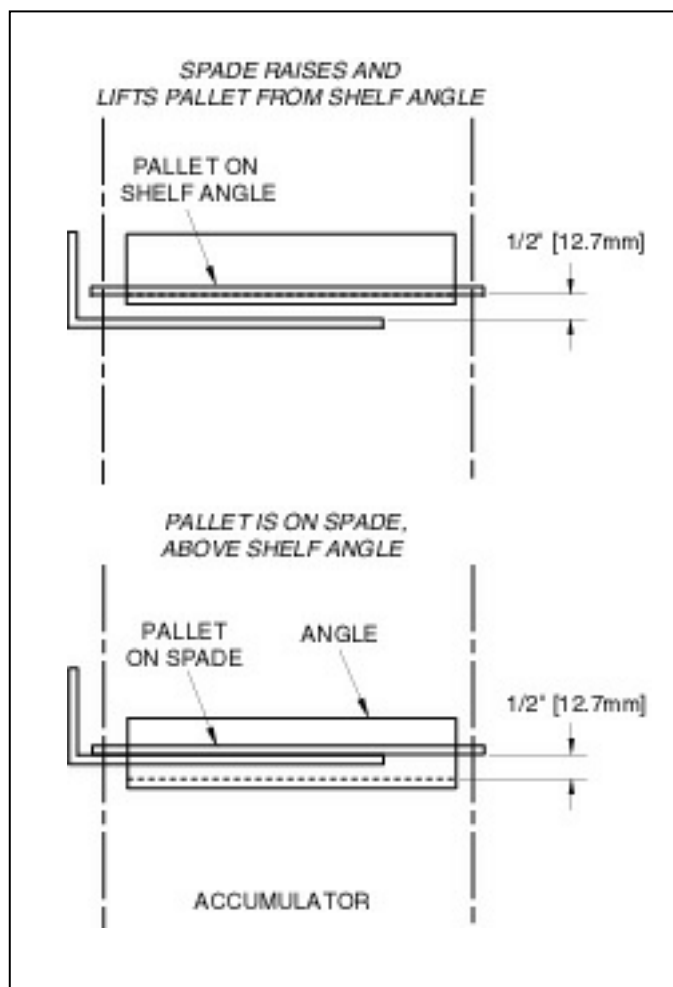

Figure 2.24 SWITCH LS-31 ADJUSTMENT.
2.2.5.5 Manually move the spade (see section 4.2) inside the Accumulator. Then move spade up and down until bottom of pallet is 1/2" [6.3mm] below shelf angle (see figure 2.24). Then move cam until switch LS-31 is actuated (screen will indicate that switch has been tripped).